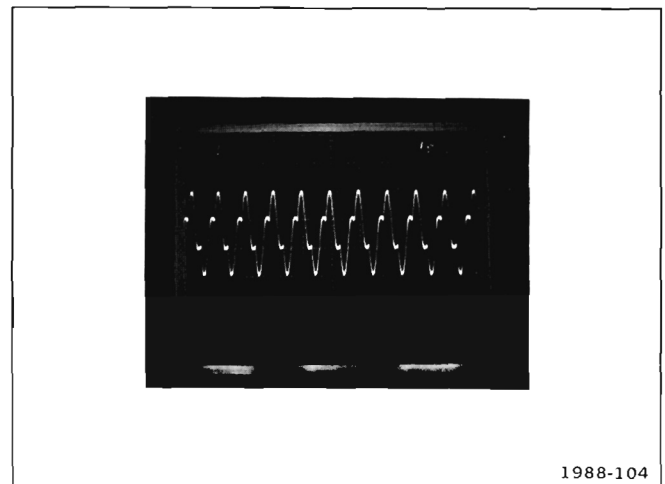

Figure 4-6. Current waveform at T1230 for normal inverter operation at line voltage of 115 V.
5. If a burst waveform was obtained in part 4 above, check for stable inverter operation when the line input voltage is increased to about 85 volts. Figure 4-6 shows the current waveform at T1230 for normal inverter operation at a line source of 115 volts. (NOTE: The test oscilloscope horizontal sweep rate has been changed to about 50 microseconds/division for Fig. 4-6.)